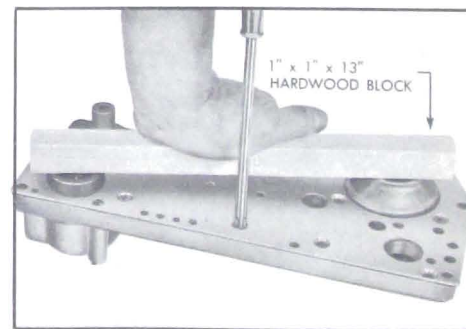

Figure 5-74—Removing Servo Body Spacer Plate
plate attaching screw at reverse servo which is in line with the low servo, then place a 1" x 1" x 13" wooden block across the low and reverse servo spring seats. See Figure 5-74.
4. Install a new spacer plate gasket and place spacer plate in position over spring seats. Place a 1" x 1" x 13" wooden block across spring seats to compress the springs while installing the spacer plate screws (Figure 5-74). Tighten screws uniformly to avoid distorting spacer plate.